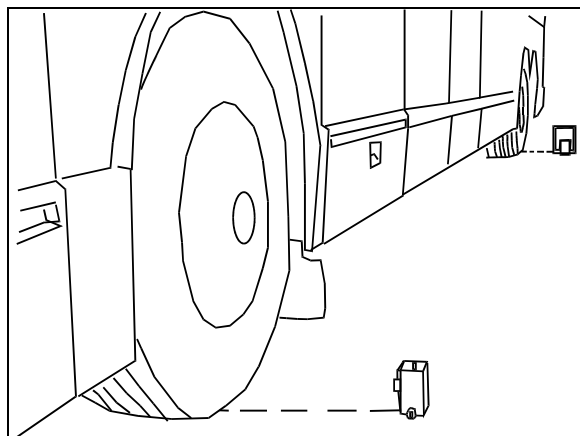

FIGURE 33: INSTALLING CALIBRATION FIXTURES 06497
7. Install a calibration fixture in the axis of front axle wheel and one in the axis of rear axle wheel (Fig. 33).